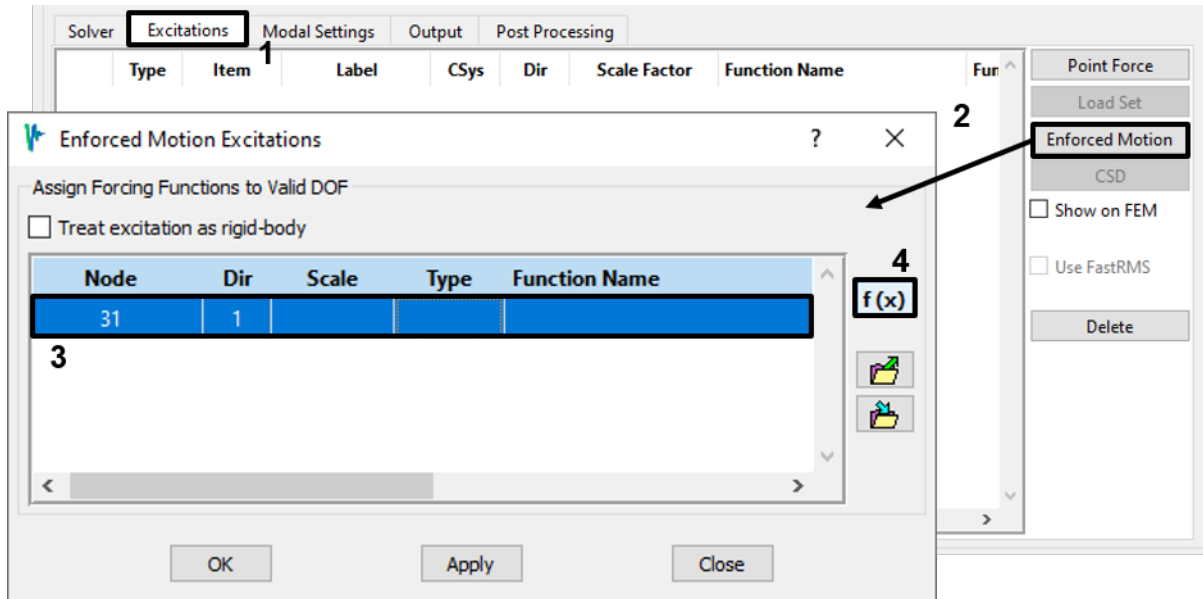

Figure 4-10. Create a new enforced motion excitation.
- b. On the *Enforced Motion* dialog, select the one available DOF and assign an excitation function to it by clicking the **f(x)** button to bring up the Function Manager (Figure 4-10).